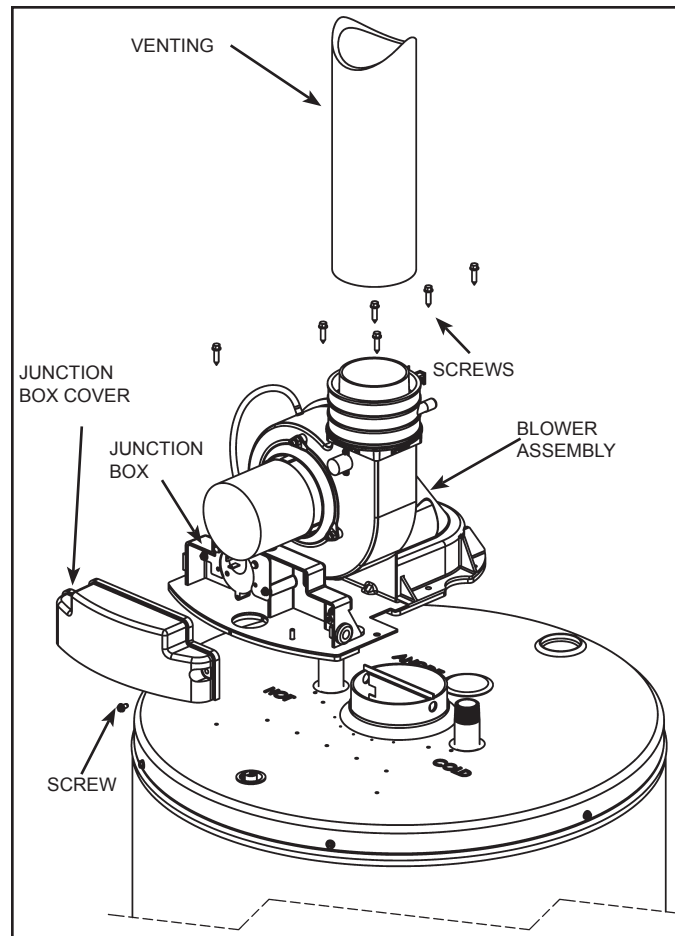

Figure 28. Removing the Blower
4. Use a 5/16" nut-driver to loosen the screw on the upper gear clamp of the rubber coupling adapter connecting the venting to the blower. Slowly pull the vent from the adapter. See **Figure 28** (page 24).
5. Use a 1/4" nut-driver or 1/4" socket & ratchet to loosen the screw on the junction box. Remove and retain the screw and junction box cover. Disconnect the power and ground connectors. See **Figure 28** (page 24).
6. Use a 1/4" nut-driver or 1/4" socket & ratchet to loosen, remove and retain the 6 hex head screws so the blower assembly can be removed. Remove the blower while carefully passing the power and ground connectors through the junction box opening. See **Figure 28** (page 24).
3. Align the screw holes on the blower assembly with those on the top of the heater. Using the six screws removed in step 6 above, install the blower assembly and tighten with 1/4" nut-driver or 1/4" socket & ratchet. See **Figure 28** (page 24).
**Note:** This power vent heater will accept a 2" or 3" rubber outlet coupling, depending on the size of the water heater. This coupling, mounted in the vertical position, accepts the vent piping and is attached as shown in **Figure 28**. See the **Manual** to determine vent pipe sizing for your application. The blower assembly may be rotated 90 degrees clockwise or counter-clockwise to allow horizontal venting in areas having restricted space above the water heater. See **Rotating The Blower** (page 24).
This power vent heater can accept 2" or 3" rubber outlet coupling, depending on the capacity of the water heater. This coupling, mounted in the vertical position, accepts the vent piping and is attached as shown in **Figure 28**.